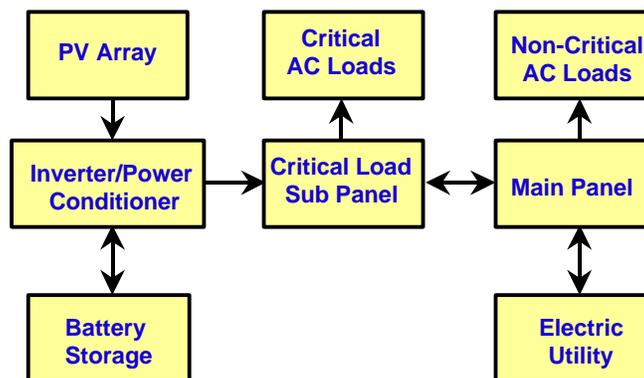

Figure 8. Diagram of grid-connected critical power supply system.
| FIGURE 8. DIAGRAM OF GRID-CONNECTED CRITICAL POWER SUPPLY SYSTEM | 8 |
A. Yes, however battery storage must be used. This type of system is extremely popular for homeowners and small businesses where critical backup power supply is required for critical loads such as refrigeration, water pumps, lighting and other necessities. Under normal circumstances, the system operates in grid-connected mode, serving the on-site loads or sending excess power back onto the grid while keeping the battery fully charged. In the event the grid becomes de-energized, control circuitry in the inverter opens the connection with the utility through a *bus transfer mechanism*, and operates the inverter from the battery to supply power to the dedicated loads only. In this configuration, the critical loads must be supplied from a dedicated sub panel. Figure 8 shows how a PV system might be configured to operate normally in grid-connected mode and also power critical loads from a battery bank when the grid is de-energized.